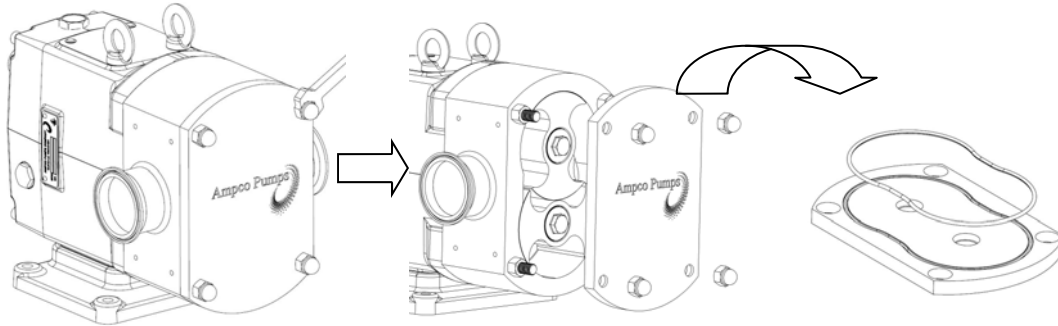

Figure 25: Removing AL Cover
1) Start by removing the cover nuts using an appropriate wrench (Figure 25). During disassembly place all parts on a clean, protected surface with finished surfaces and seal faces facing up. Tap the cover off using a soft mallet. Remove the cover o-ring and inspect.